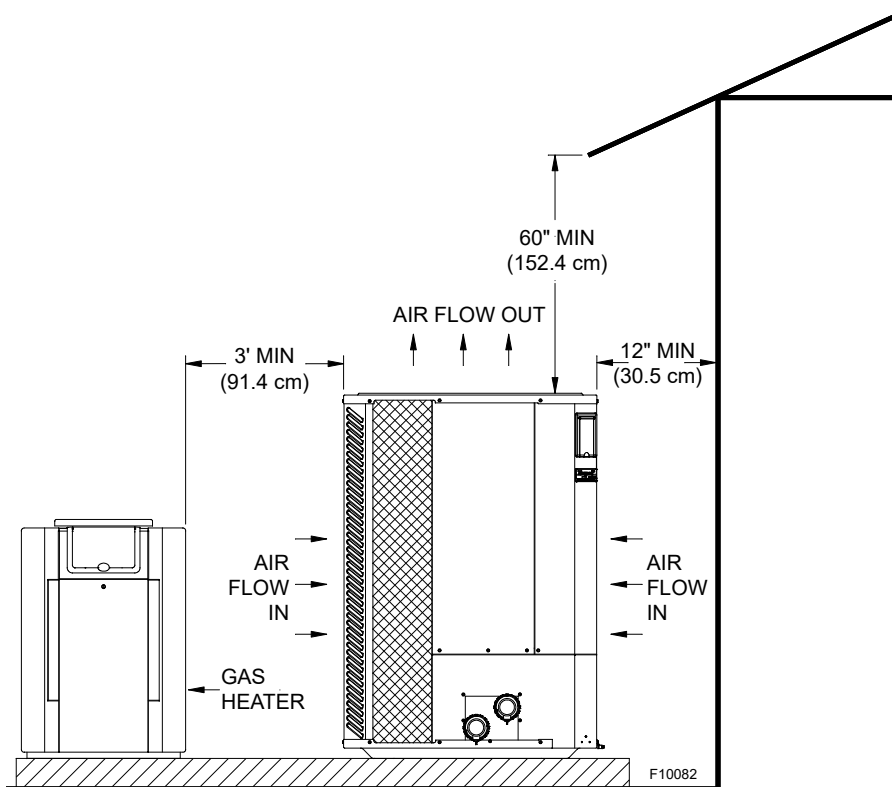

Figure 1. Installation Clearances
- This unit features an 'up-flow' discharge for quiet operation. Air is pulled up through the evaporator coil and discharged through the top grill. Allow at least 5 ft (1.5 m) clearance above the unit for unrestricted air discharge. Do NOT install the unit under a porch or deck. Refer to **Figure 1**.